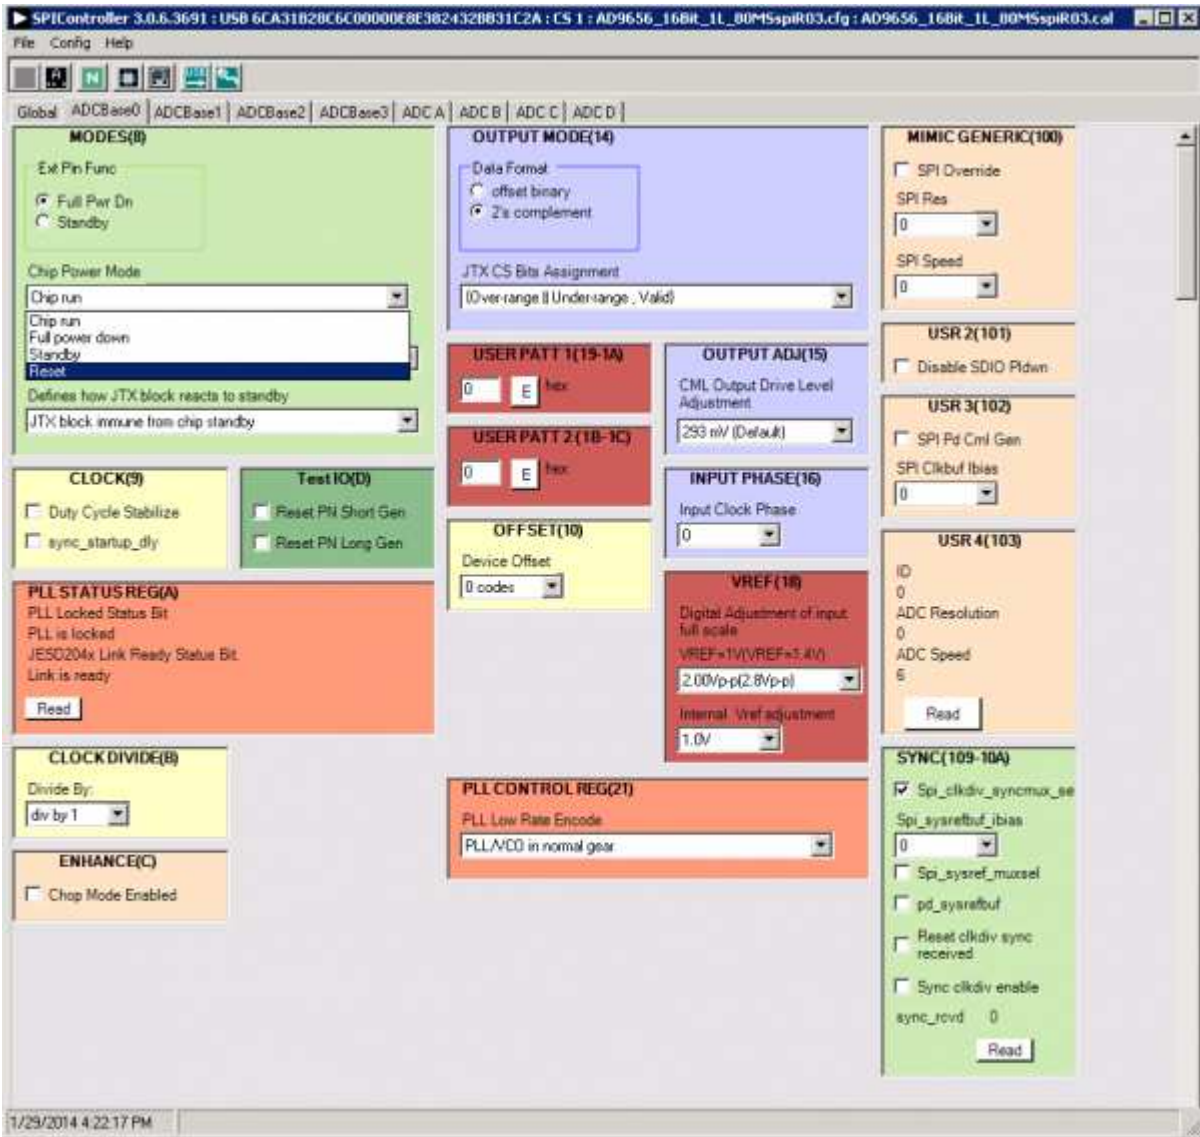

Figure 14. SPI Controller, Chip Power Mode - Digital Reset Selection
3. In the **ADCBase0** tab of the **SPIController** window, find the **CLOCK DIVIDE(B)** box (see Figure 13), and the **MODES(8)** box (see Figure 14). If using the clock divider, use the drop-down box to select the correct clock divide ratio, if necessary. If there is any interruption of the ADC clock during power-up or during operation, a Digital Reset may be needed to re-initialize the ADC (Figure 14). For additional information, refer to the data sheet, the AN-878 Application Note, High Speed ADC SPI Control Software, and the AN-877 Application Note, Interfacing to High Speed ADCs via SPI.
13. SPI Controller, CLOCK DIVIDE(B) Box
6. Invoke a Digital Reset as shown in Figure 14 before testing. After selecting Reset, select Chip run to return to normal operation.
- If you see an abnormal noise floor, go to the **ADCBase0** tab of the **SPIController** window and toggle the **Chip Power Mode** in **MODES(8)** from **Chip Run** to **Reset** and back (Figure 14).